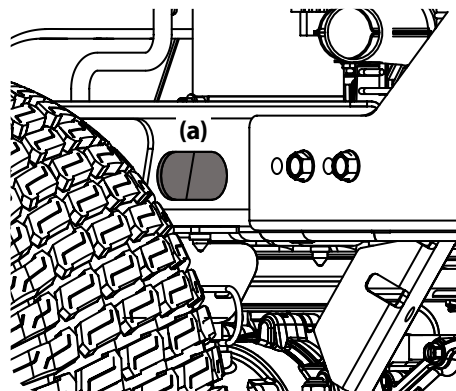

Figure 4-3
- Push the clear oil drain tube (packed with this manual) onto the oil drain port. Route the opposite end of the tube into an appropriate oil collection container with at least a 2.5 quart capacity to collect the used oil. Some models are equipped with a slot (a) in the rear left side of the frame to route the oil drain through. See Figure 4-3.